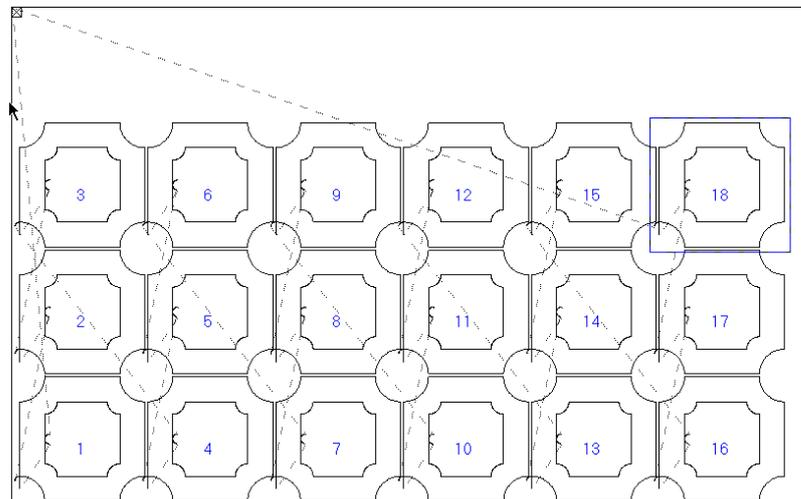

Figure 1-5
- (3) In window of “automatic array setup”, input 18 for total, and click “OK”, thus parts can automatically array on the whole plate, as shown in Figure 1-5. As for the empty part of the plate, other parts can be arrayed there.